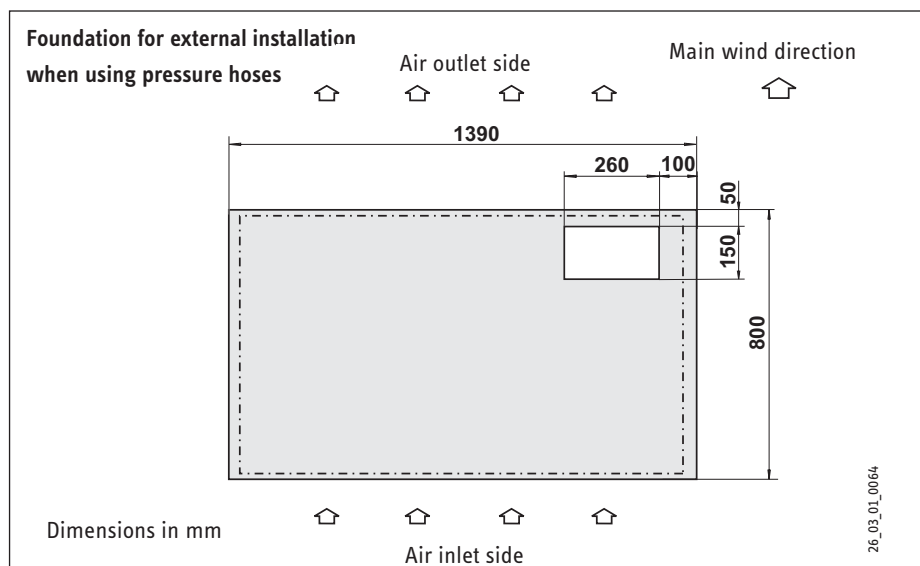

Fig. 4
- Foundation (Fig. 4)
A recess (space) must be provided underneath the heat pump to enable water and electrical pipes/cables to be connected from below (Fig. 4 and 7).